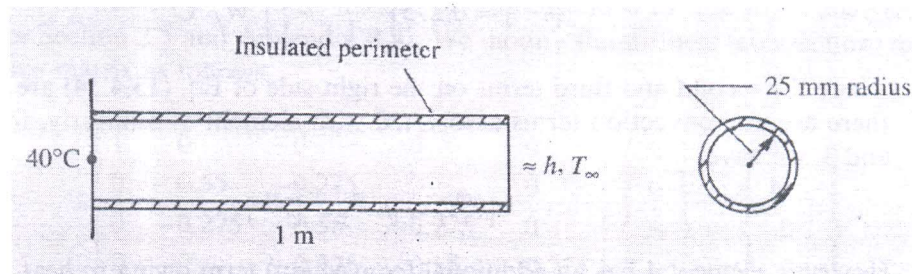

Figure 7
- Q7) Determine the temperature distribution along the length of the rod (at $L/4$, $L/2$, $3L/4$, and L) as shown in Figure 7. The rod with radius of 25 mm is insulated at the perimeter. The left end has a constant temperature of 40°C and a free stream temperature T_∞ is -10°C . Let $K_{xx} = 35 \text{ W/(m}^\circ\text{C)}$ and $h = 55 \text{ W/(m}^2\text{ }^\circ\text{C)}$. [16]